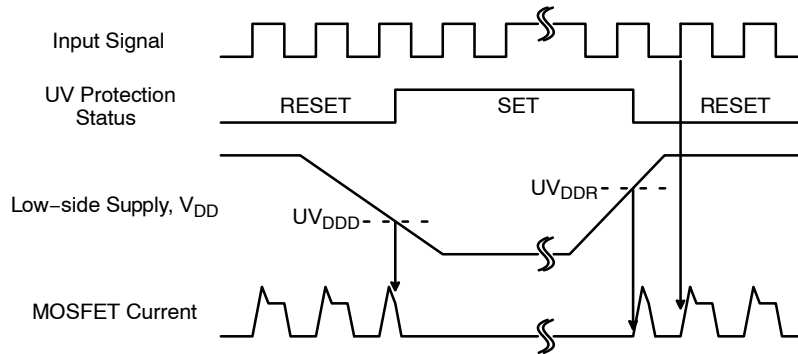

Figure 8. Under-Voltage Protection (Low-Side)
- The peak current and voltage of each MOSFET during the switching operation should be included in the Safe Operating Area (SOA). Please see Figure 8 for the RBSOA test circuit that is same as the switching test circuit.